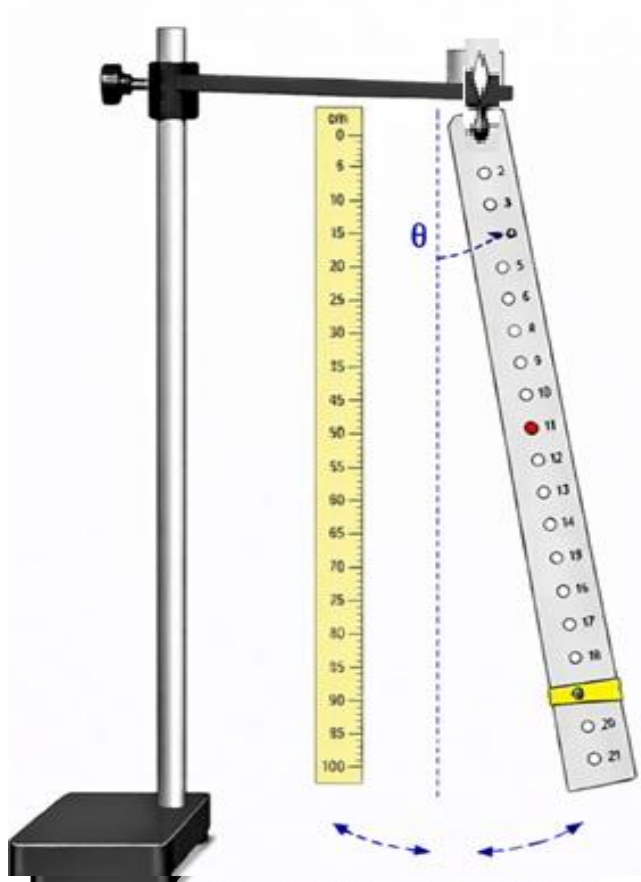

Fig. 05.02: Bar Pendulum under oscillation
3. Displace the bar slightly (Fig. 05.02) and allow it to oscillate freely in a vertical plane with a small amplitude (not exceeding 5°).